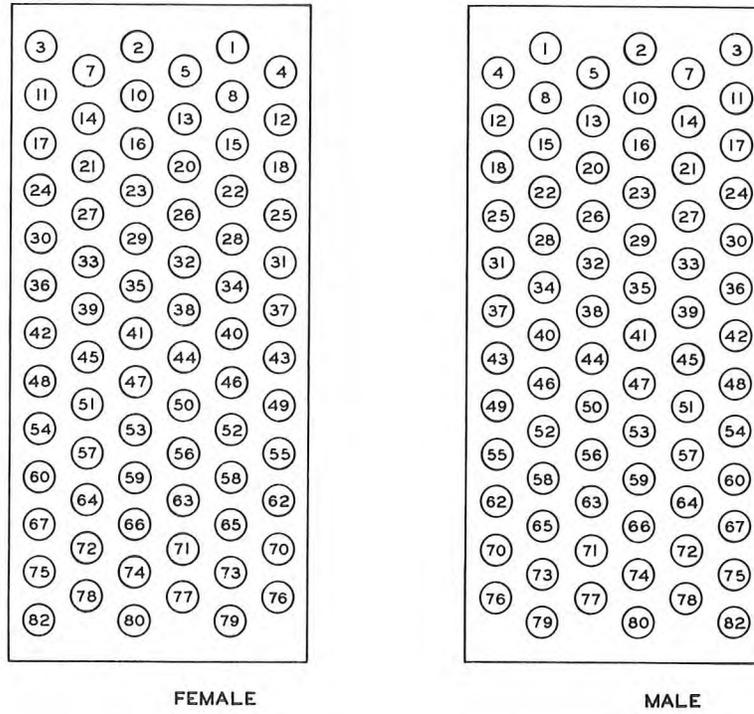

Fig. 43 – 75-type Terminal Side Numbering
15.03 Connector terminals are designated either by numbers or letters. The end of the connectors at which the designation (1 or A) begins is referred to as the low designated end. Certain numbers and letters which may be confusing have been omitted. (See Fig. 43, 44, and 45.)